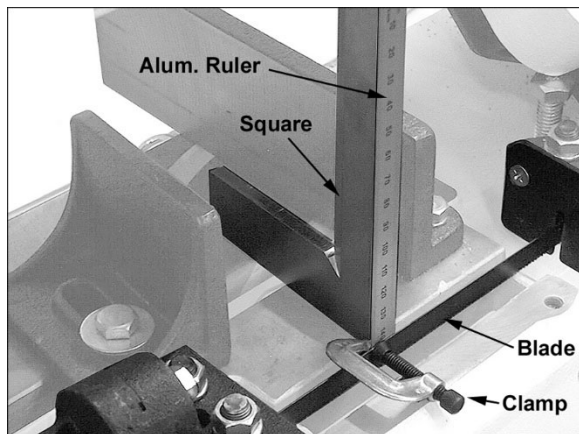

Figure 8-14: table/blade squareness
1. "Extend" the blade surface by clamping a straight, flat object to blade. (Figure 8-14 uses small, lightweight aluminum ruler.) Use lightweight clamp.